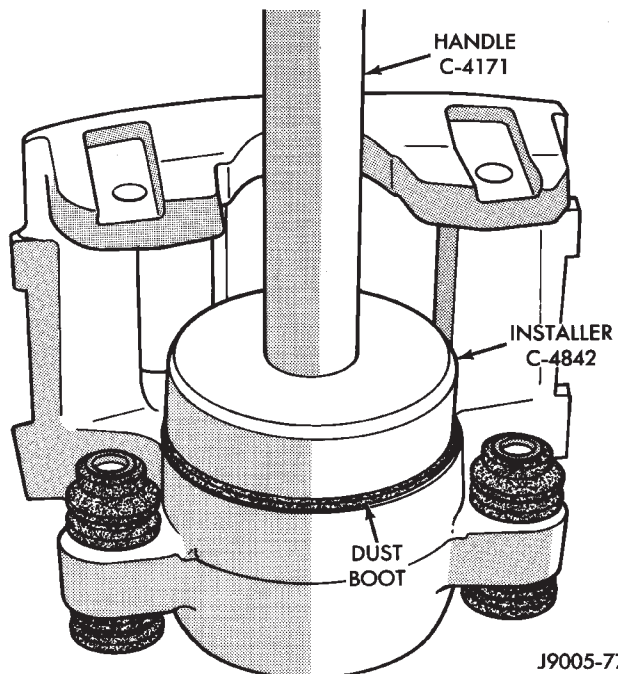

Fig. 73 Piston Dust Boot Installation
(7) Press caliper piston to bottom of bore.
(8) Seat dust boot in caliper with Installer Tool C-4842 and Tool Handle C-4171 (Fig. 73).